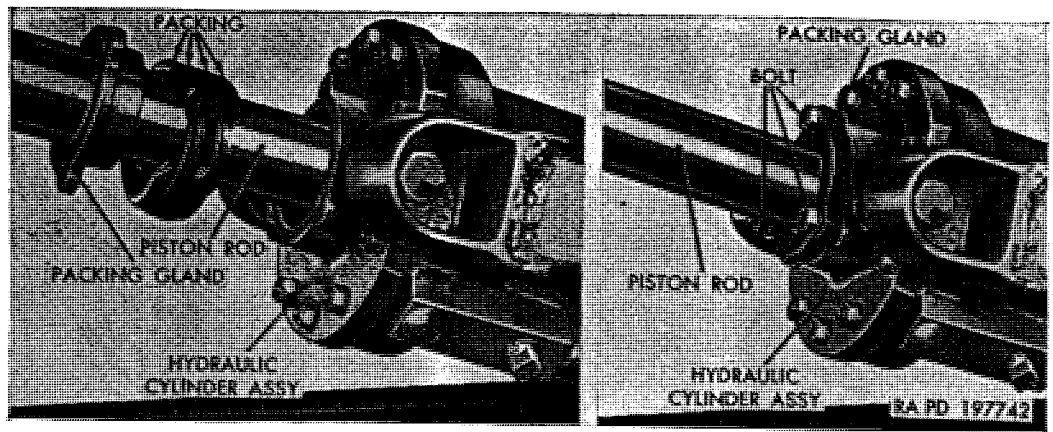

Figure 353. Hoist cylinder piston rod packing replacement.
b. Piston Rod Packing Replacement (fig. 353).
- (a) Clean piston rod, cylinder head counterbore, and packing gland of all dirt, oil, or other deposits. Apply light film of engine lubricating oil (OE) to facilitate assembly.